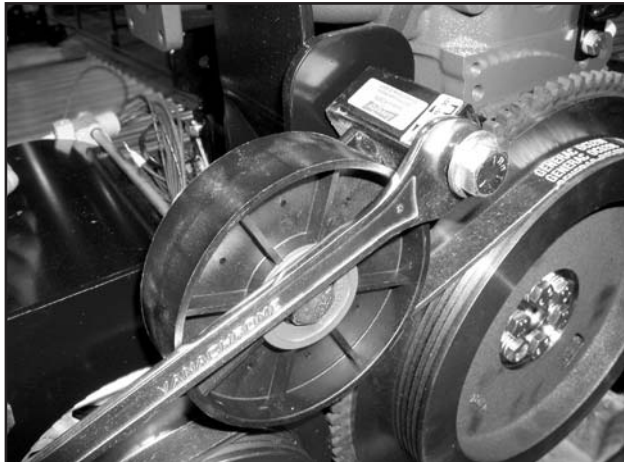

Figure 8-5. – Applying Tension to Drive Belt Tensioner
2. Using a 3/4" wrench, apply tension to the belt as shown in Figure 8-5.